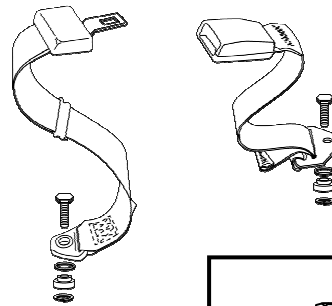

FIGURE 1
1. Your lap belt assembly is as shown in figure 1.
2. Fit tongue side to vehicle structure as shown in figure 1.